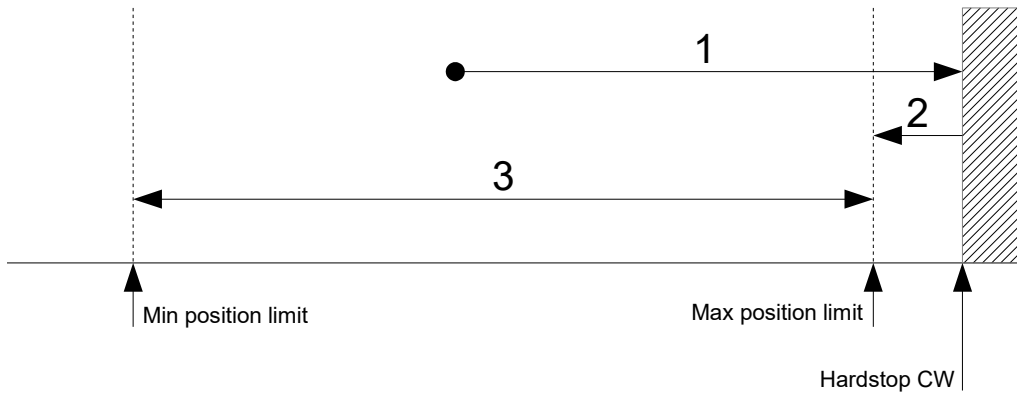

Figure 6: Single ended homing CW
For this homing method, the motor is driving with a constant positive velocity (6099_h:2) clockwise into a hard stop (1) as shown in figure 6. While driving into the hardstop the actual motor current is measured and compared with the current threshold (2025_h:4). If the current threshold is reached, the motor moves back by -PositionOffset_CW (2025_h:2) encoder steps (2). Then the motor is stopped and the actual position (6064_h) is set to 0. The max position limit (607D_h:2) is also set to 0. The velocity is limited to (6099_h:1). The min position limit (607D_h:1) will not be changed during this homing method and can be set before homing to limit the position range.